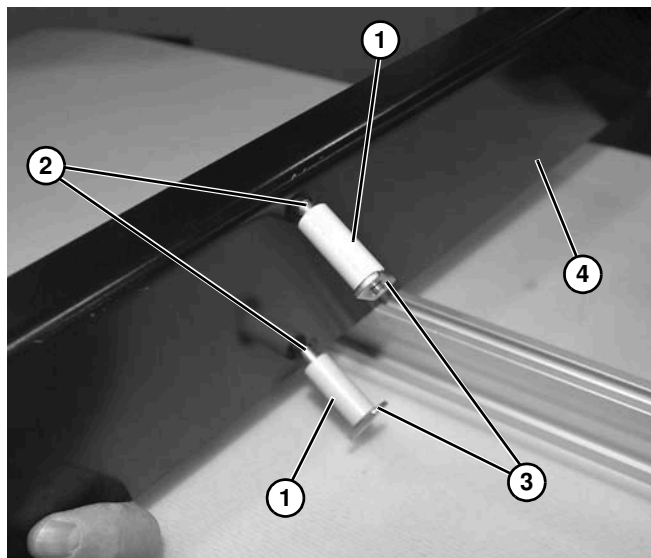

Figure 58
2. Loosely install two spacers (**Figure 58, item 1**) with screws (**Figure 58, item 2**) and weld nuts (**Figure 58, item 3**) onto cross support (**Figure 58, item 4**).